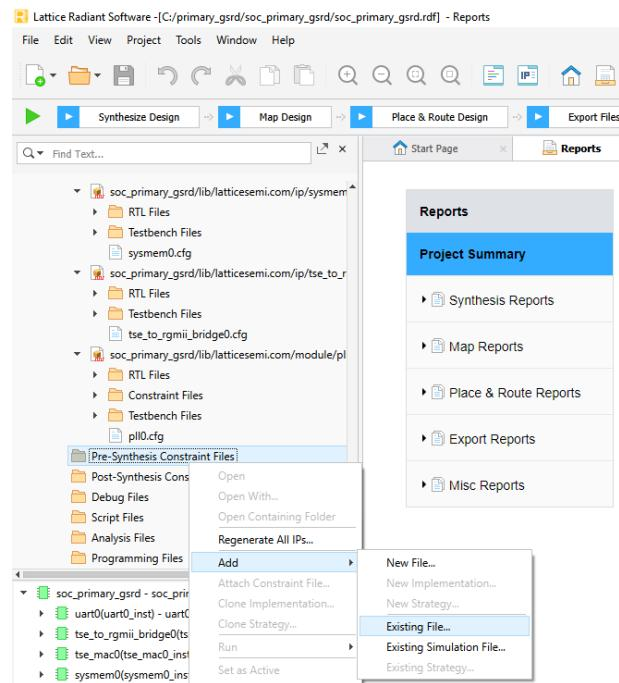

Figure 8.50. Add Existing Pre-Synthesis Constraint
5. Right-click on **Pre-Synthesis Constraint Files > Add > Existing File..** as shown in Figure 8.50.